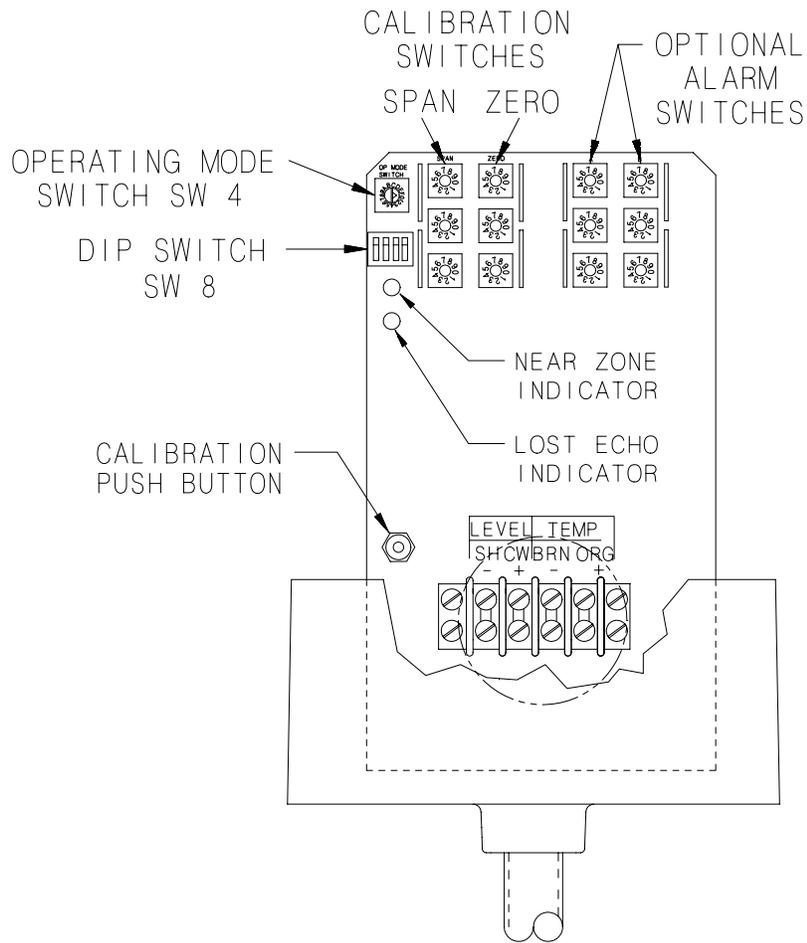

Figure 4-1
With the power off, verify that all four switches on SW8 are DOWN (open). Refer to *Figure 4-1*.
- a. Refer to Figure 4-1 for location of alarm switches (ALM1 and ALM2).